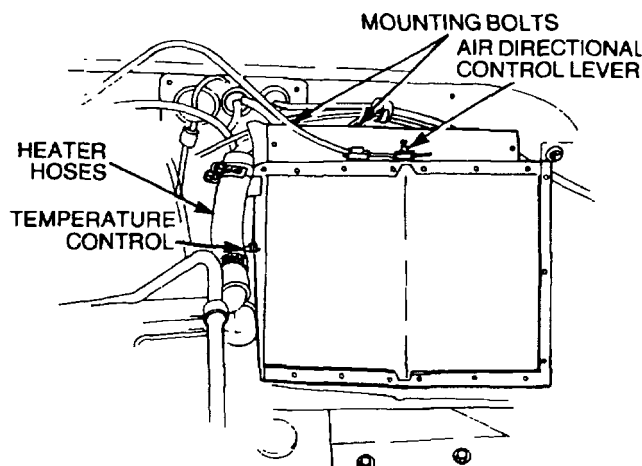

Figure 196 Heater Assembly Removal
- c. Disconnect the securing clip and cable from the air directional control lever (Figure 196).